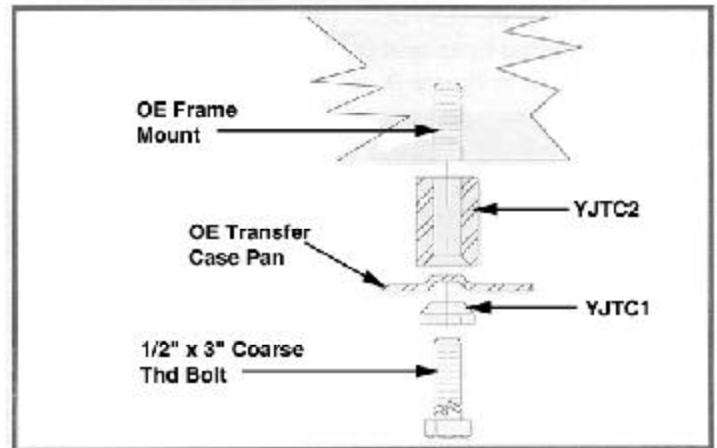

Fig. 8
6. Lower transfer case as shown in Fig. 8.